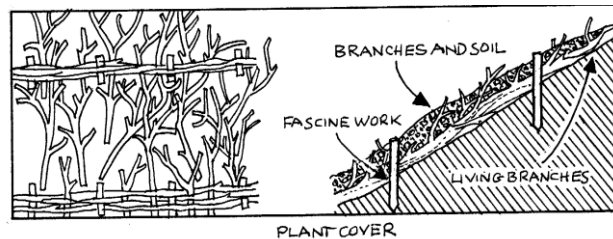

Figure 6: Brush packing of plant material to guard against loss of topsoil during heavy rains.
- a) During construction unchannelled flow must be controlled to avoid soil erosion. Where large areas of soil are left exposed, rows of straw / hay or bundles of cut vegetation should be dug into the soil in contours to slow surface wash and capture eroded soil. The spacing between rows will be dependant on slope. (see figure 6 & 7).